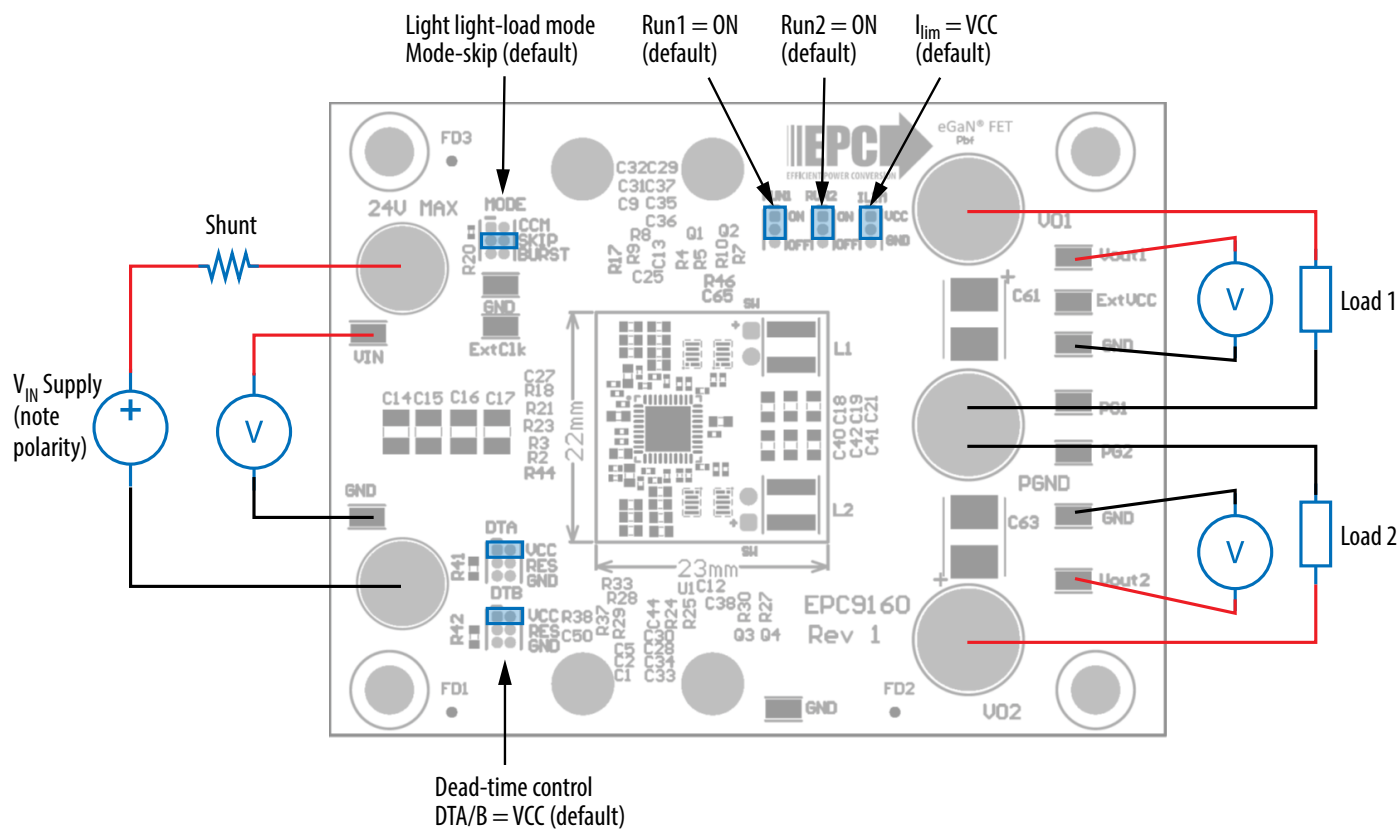

Figure 1: Proper connection set up and default jumper positions
The demonstration board EPC9160 is easy to set up to evaluate the performance of the EPC2055 eGaN FETs and directly drive from the controller IC. Refer to figure 1 for proper connect and measurement setup and follow the procedure below:
1. Check if the jumpers are at its default location as shown in figure 1.
3. With power off, connect a programmable load as needed between V_{out1} and/or V_{out2} (J4 and J8) and GND (J18) as shown in figure 1.